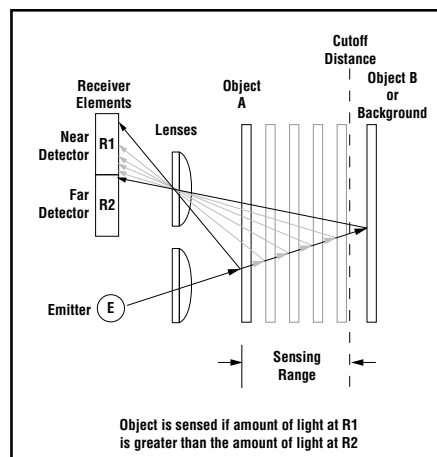

Figure 1. Fixed-field concept
The Q25FF compares the reflections of its emitted light beam (E) from an object back to the sensor's two differently aimed detectors, R1 and R2 (see Figure 1). If the near detector (R1) light signal is stronger than the far detector (R2) light signal (see object A, closer than the cutoff distance), the sensor responds to the object. If the far detector (R2) light signal is stronger than the near detector (R1) light signal (see object B, beyond the cutoff distance), the sensor ignores the object.